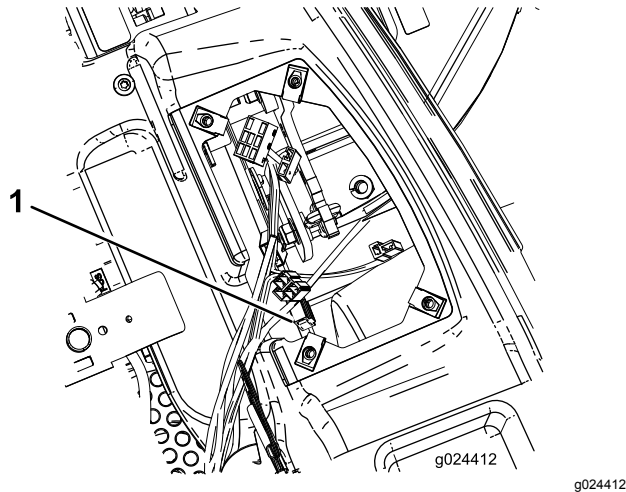

Figure 55
3. Grasp the engine fuse and pull it straight and away from the fuse block (Figure 55).